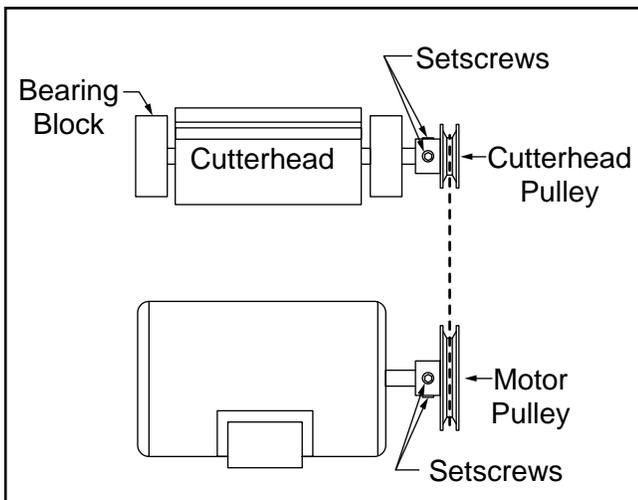

Figure 8. Pulley adjustment.
3. Align the motor and cutterhead pulleys with each other using a plumb bob or straight-edge. Move the motor until the face of the motor pulley is aligned with the cutterhead pulley and tighten the motor mount bolts. Pulley alignment can be fine tuned by loosening the motor pulley setscrews and moving the pulley in or out as necessary. **Figure 8.**